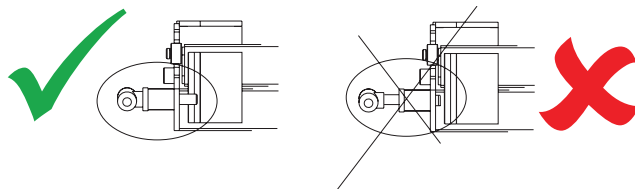

Figure 3-13
1. Fully close the T-handle. *See Figure 3-13.*
Be sure to stay clear of the latching mechanism to avoid personal injury. *See Figure 3-13.*